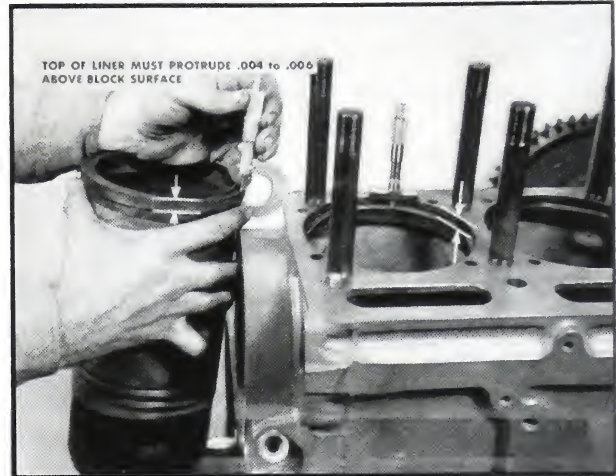

Fig. 2-42. Liner flange extends above block
6. The counterbore at the top of the cylinder block for the liner must be smooth, perpendicular to the bore, and .435/.434 deep. When the cylinder liner is assembled in the block, with necessary liner shims in place, the top of the liner must be .004 to .006 above the milled top of the cylinder block. Check the cylinder liner flange with micrometers and compare with counterbore in the block to make sure that with the shims you have .004 to .006 protrusion. (Fig. 2-42).